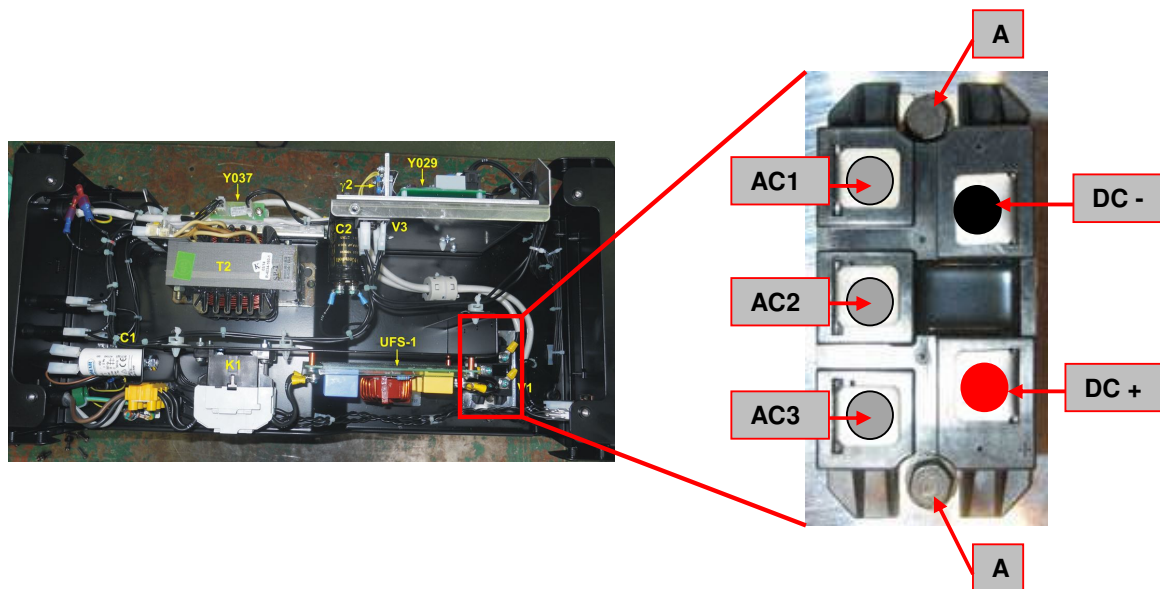

Figure 15
3. Locate the 3 phases input rectifier bridge. See **Figure15**
4. Using the 8mm nut driver label and remove the 3 AC input cables and the 2 output DC+ and DC- cables from the 3 phases input rectifier bridge. See **Figure 15**
5. Using 8mm nut driver remove the 2 screws (A) that fix the 3 phases input rectifier bridge to the heat sink. See **Figure 15**